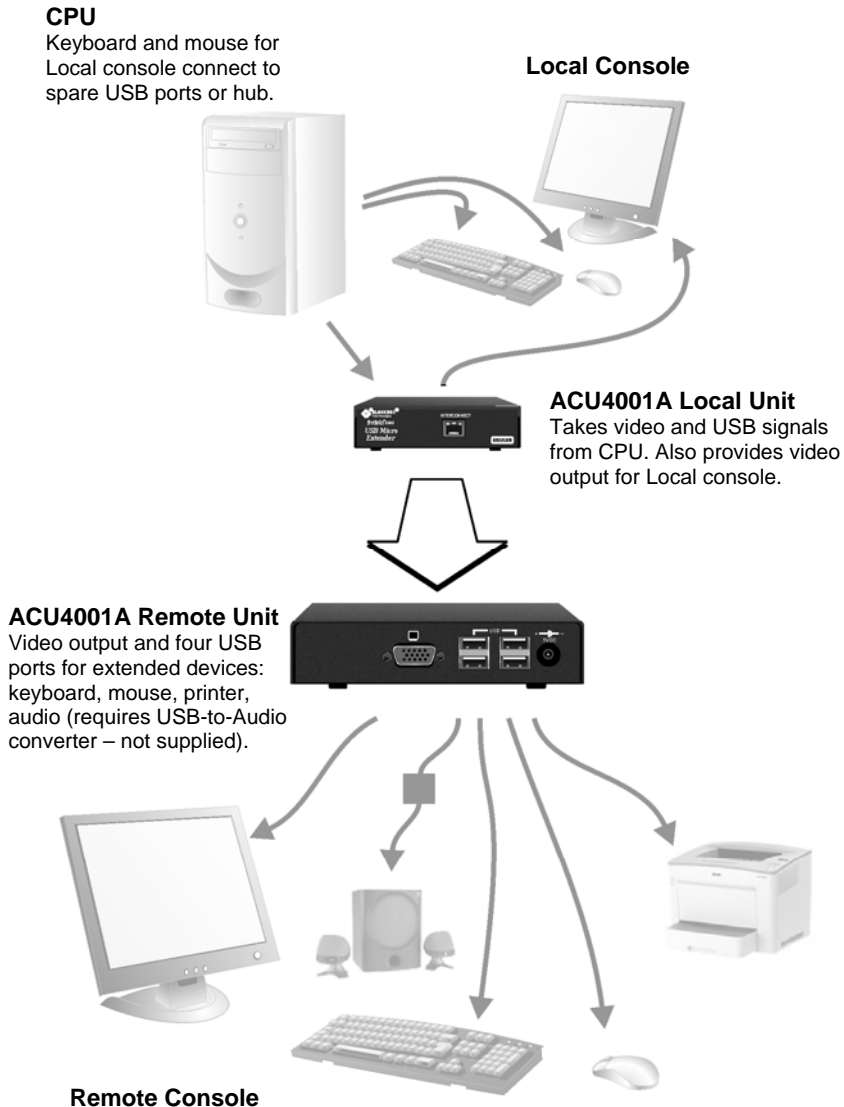

Figure 6 Single monitor consoles with audio extension using USB-to-Audio converter (not supplied)
- Simple system using ACU4001A to provide remote console with extended USB keyboard, mouse and printer (Figure 6). Audio extended by USB using USB-to-Audio converter at the Remote Unit (not included).